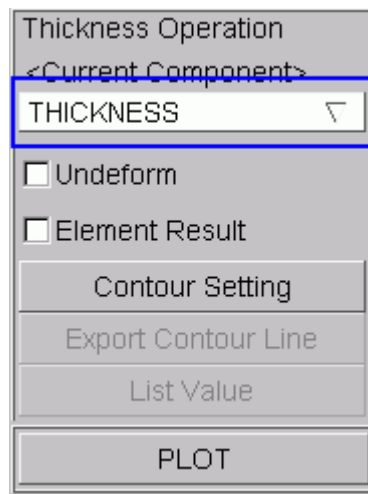

Figure 3.42: Thickness/thinning dialog box
- 1) Select “**Thickness**” from the result operation menu. See figure 3.42.